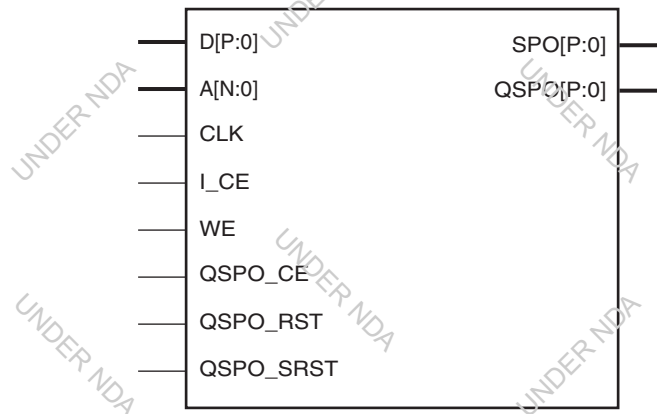
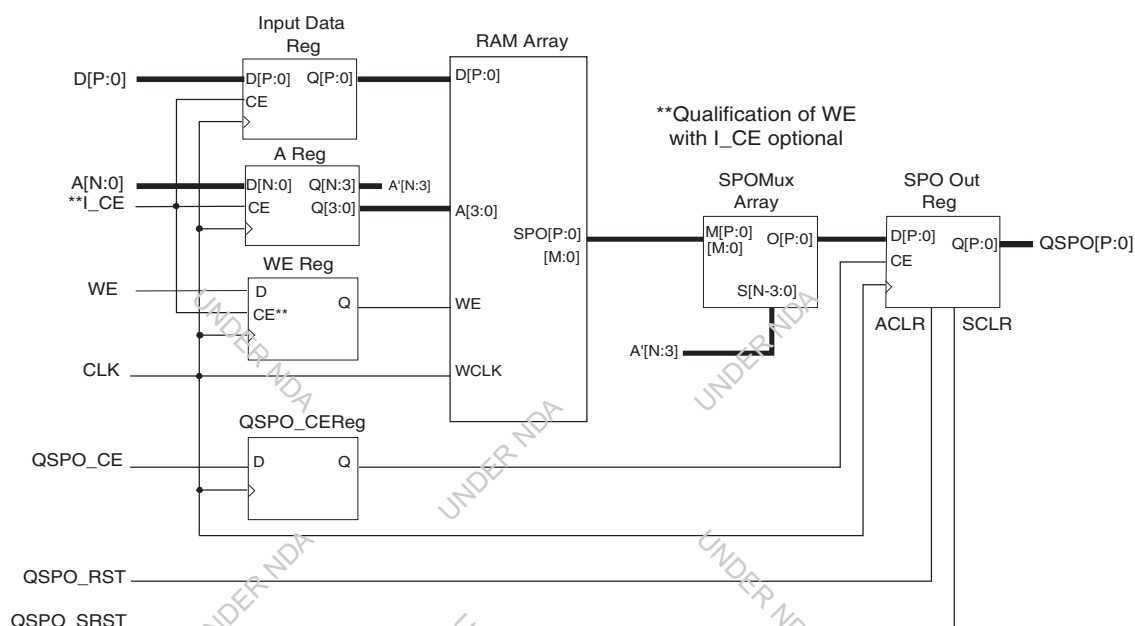

Figure 3: Distributed Single-Port RAM Schematic Symbol
Figure 4: Distributed Single-Port RAM Module Schematic
The distributed single-port RAM uses the single-port distributed RAM resource of the LUT. Writes to the Single-Port RAM are synchronous to the clock (CLK). However, read operations can be asynchronous (SPO) or synchronous to the clock (QSPC). Figure 3 illustrates the distributed single-port RAM schematic symbol, and Figure 4 illustrates its internal implementation. If a pipeline register is added to a registered core (not illustrated), the additional register is re-timed into the SPO MUX array. For timing information about the distributed single-port RAM, see the platform-specific user guide for the target FPGA architecture.
- **Single-Port RAM.** Figure 4 illustrates a schematic of the structure of the single-port RAM modules. The address and data registers are optional (controlled by the setting of the Input Options parameter). Output registering is also optional (controlled by the setting of the Output Options parameter). The resets and clock enables are optional. The clock CLK is always required because writes to the single-port RAM are synchronous to that clock.